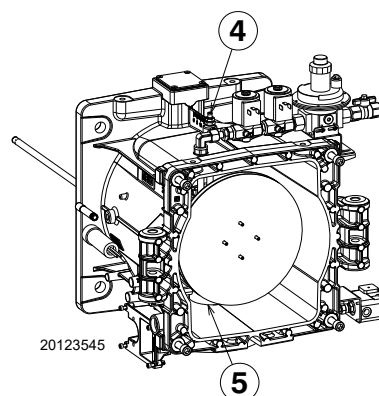

Fig. 22
- F release the gas distributor from the seat 5)Fig. 22 and remove it.